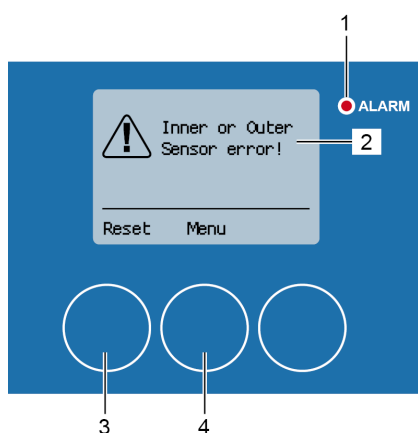

Fig. 190: Inner or outer sensor alarm
The alarm message “Inner or Outer sensor error!” (Fig. 190/2) occurs during the cleaning process if there is a problem with the inner and/or outer proximity sensor. The red alarm LED (Fig. 190/1) lights up.
2. Reset the alarm message with [Reset] (Fig. 190/3).
If the alarm message is reset without first rectifying the error, the alarm message appears again. The “1 Main menu” menu can be called up via [Menu] (Fig. 190/4), e.g. to check the signal status of the proximity sensors chapter 7.6 Status indicators on page 108.